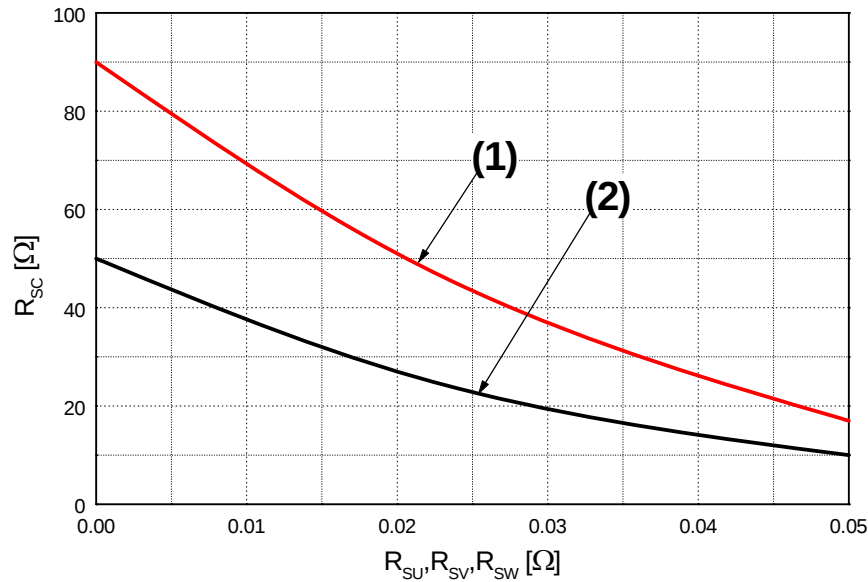

Figure 6. R_{SC} Variation by Change of Shunt Resistors (R_{SU} , R_{SV} , R_{SW}) for Short-Circuit Protection
- Short-circuit protection is functioning only at the low-sides. It would be recommended that the value of the external sensing resistor (R_{SC}) should be selected around 50 Ω in order to make the SC trip-level of about 45A, at the shunt resistors (R_{SU}, R_{SV}, R_{SW}) of 0 Ω. For the detailed information about the relationship between the external sensing resistor (R_{SC}) and the shunt resistors (R_{SU}, R_{SV}, R_{SW}), please see Figure 6.